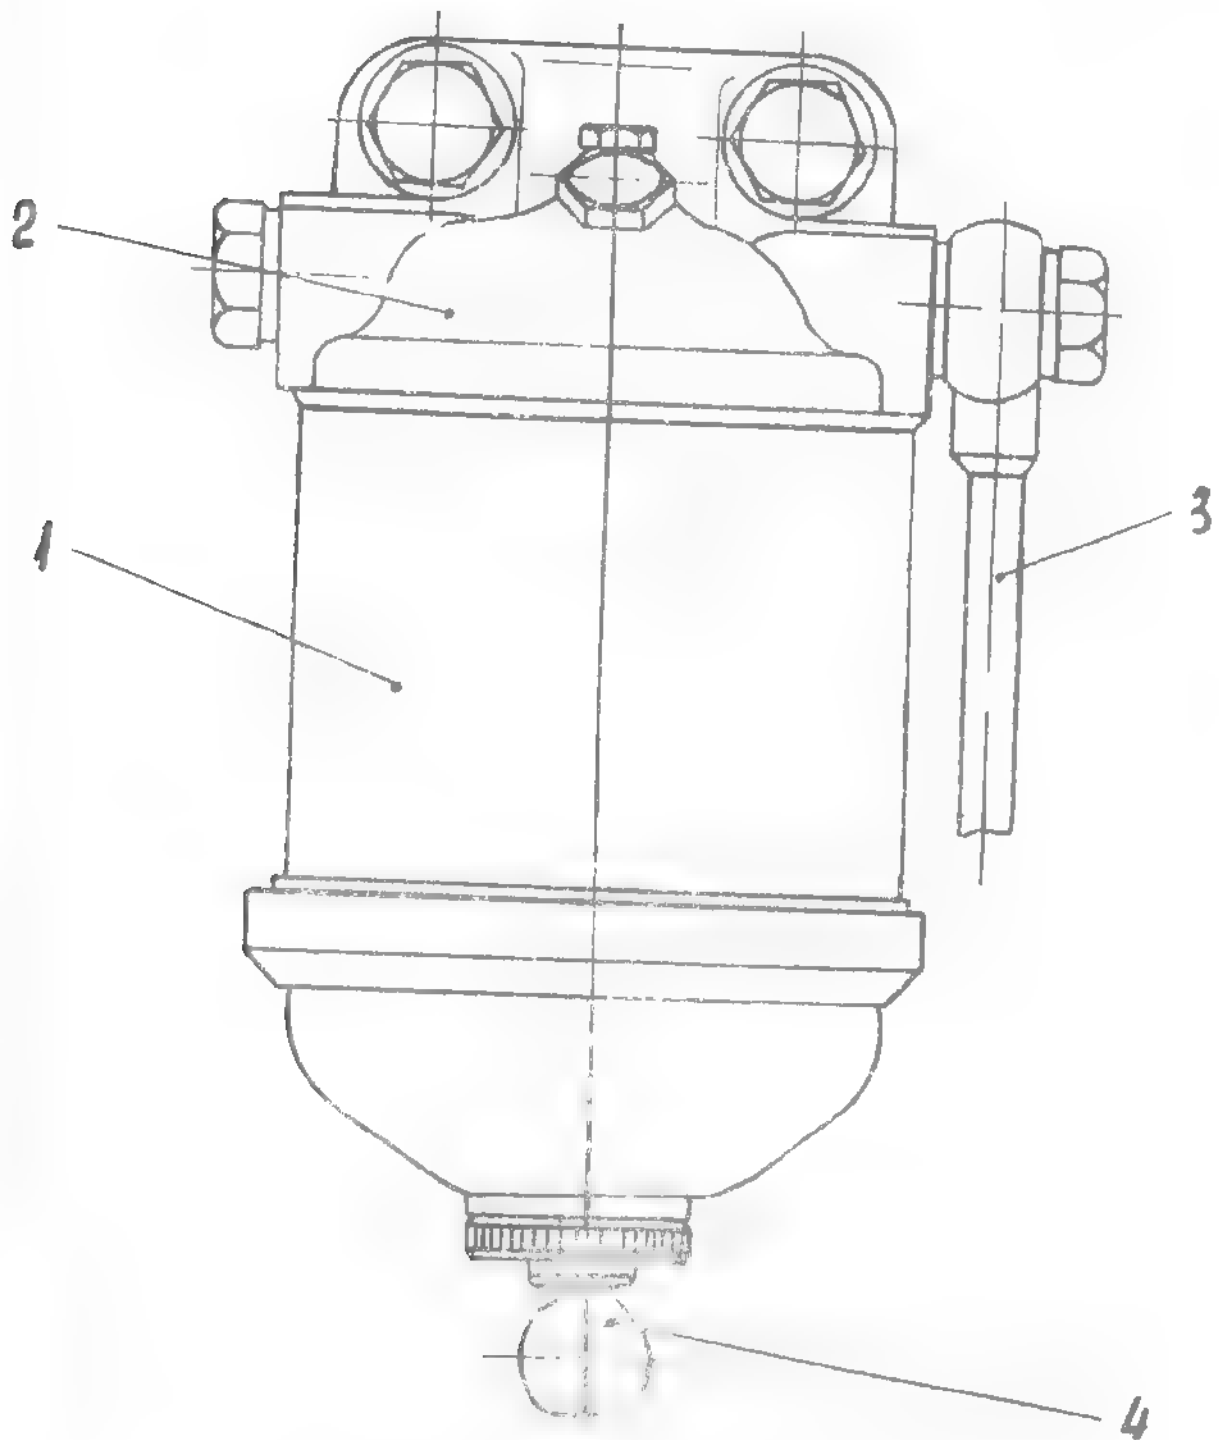

Fig. 2.27. AGGLOMERATING FILTER
- Loosen with 3 - 4 turns the lower filter draining plug (see fig.2.27) and let drain water and other impurities out.